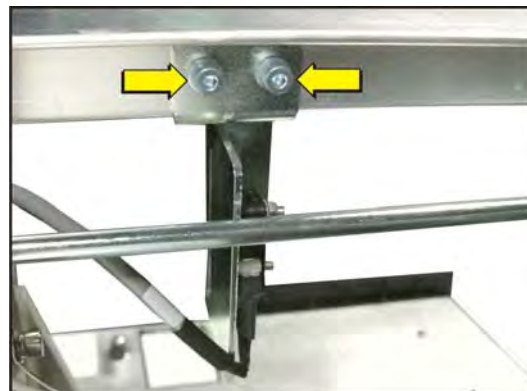

Figure 5-66 Lamp Door Interlock Bracket
9. Using a 3mm hex key, remove the two screws securing the lamp door interlock bracket. (**Figure 5-66**)